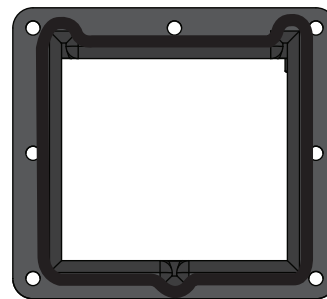

FIG. 2c
- Apply to the Fan Housing's (B) outlet inside the bolt holes [FIG. 2c].